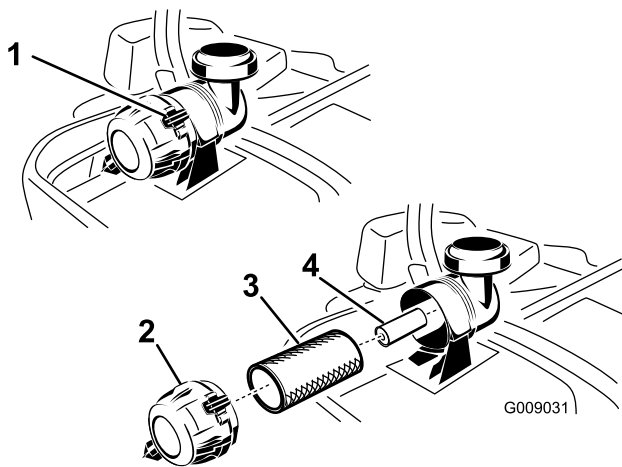

Figure 44
- Push down to release the retaining clamps on the air cleaner and pull the air cleaner cover off of the air cleaner body (Figure 44).
- Gently slide the primary filter out of the air cleaner body (Figure 44). Avoid knocking the filter into the side of the body.
1. Do not clean the paper filter, replace it (Figure 44).
2. If the secondary filter is being replaced, carefully slide it into the filter body (Figure 44).
3. Carefully slide the primary filter over the secondary filter (Figure 44). Ensure that it is fully seated by pushing on the outer rim of the filter while installing it.
4. Install the air cleaner cover with the breather cap down and rotate so the retaining clamps lock the cover in place (Figure 44).